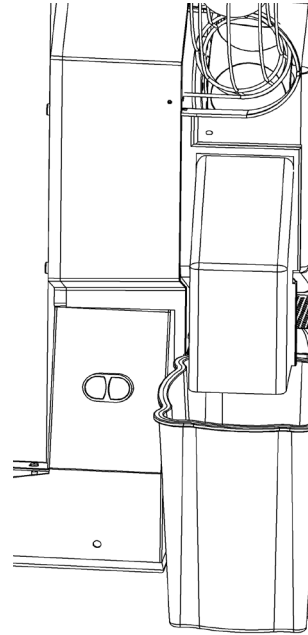

Figure 6
(Figure 6)
1- Press the red button on the on / off button (51) of your machine when the squeezing process is over (**Figure 6**).